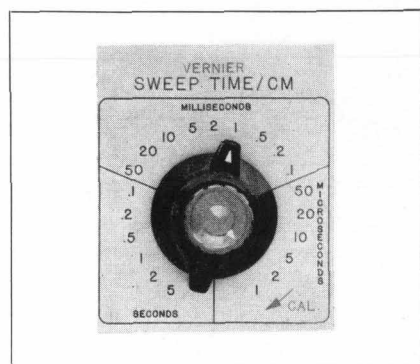

Fig. 6. Sweep Time control is direct-reading. Concentric knob is 3:1 vernier for selecting intermediate sweep times.
- Sweep speed, vertical sensitivity and horizontal sensitivity are all selected by single directly-calibrated controls (Figs. 6 and 8).